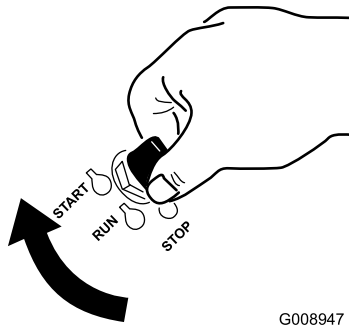

Figure 17
1. Turn the ignition key to the Start position (Figure 17). When the engine starts, release the key.
7. Turn the ignition key to the start position (Figure 17). When the engine starts, release the key.